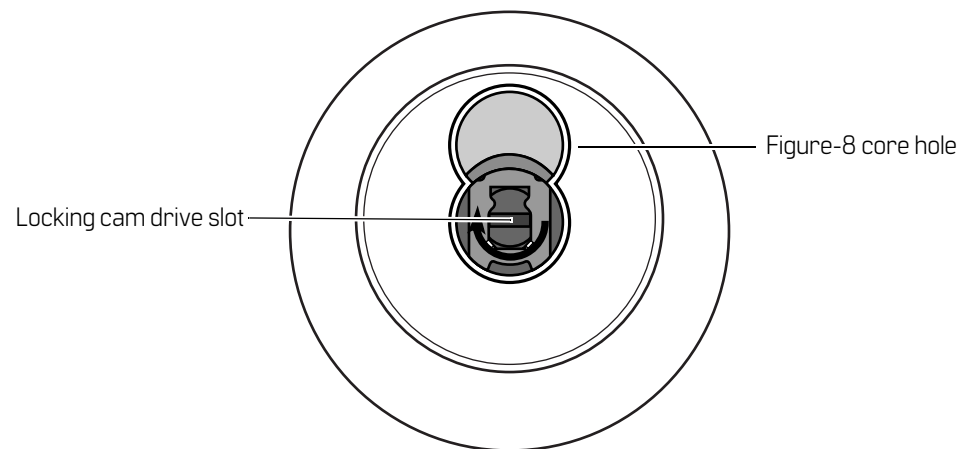

Figure 3.32 Correct position of the G function locking cam
- Before you install the core and throw member, you can see that the locking cam is not positioned as shown in Figure 3.32. Perform the following steps to reposition the locking cam.
1. Looking through the figure-8 core hole in either knob, turn the locking cam drive slot to match the position shown in Figure 3.32.
- Turn the drive slot clockwise to match the position shown in Figure 3.32.